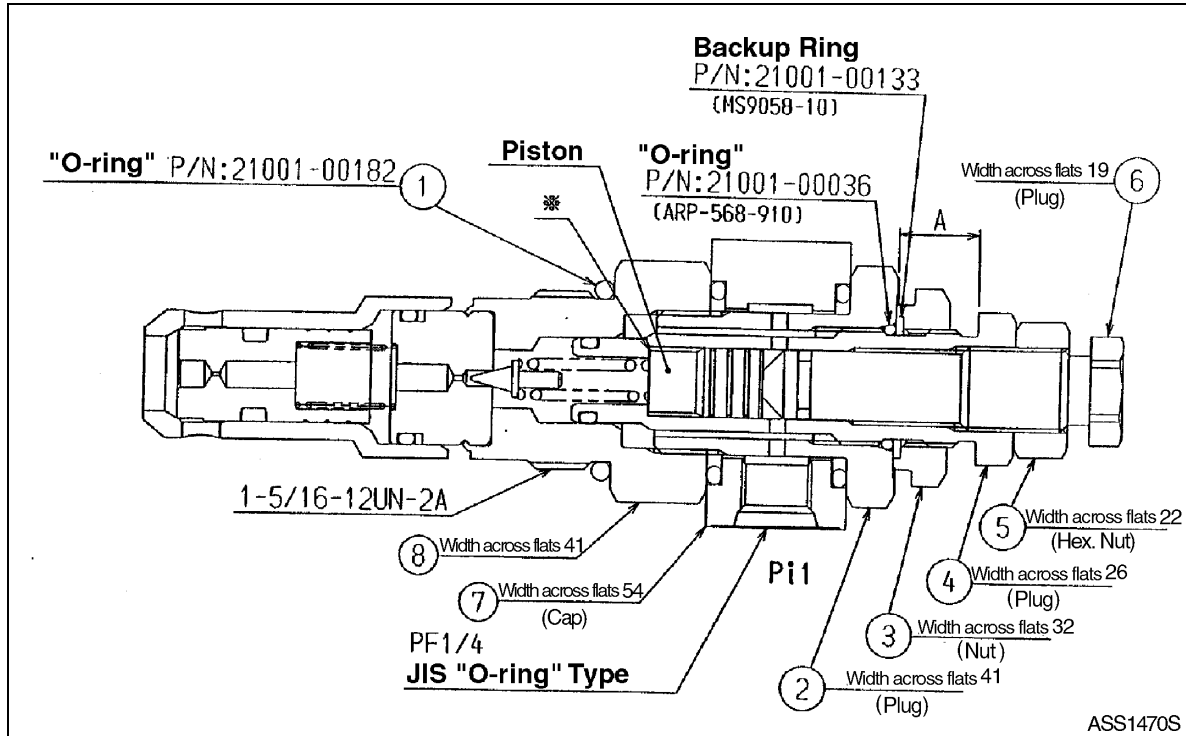

Figure 56 S/N 1001 thru 1050
Check whether there is dirt or paint chips around plug (2 and 4, Figure 56) and nut (3). Reassemble with new O-rings. Clean the installation portion of relief valve and install it. Tighten cap (8: Width across flats 41). Torque is 9.48 - 11.01 kg·m (69 - 80 ft lb).